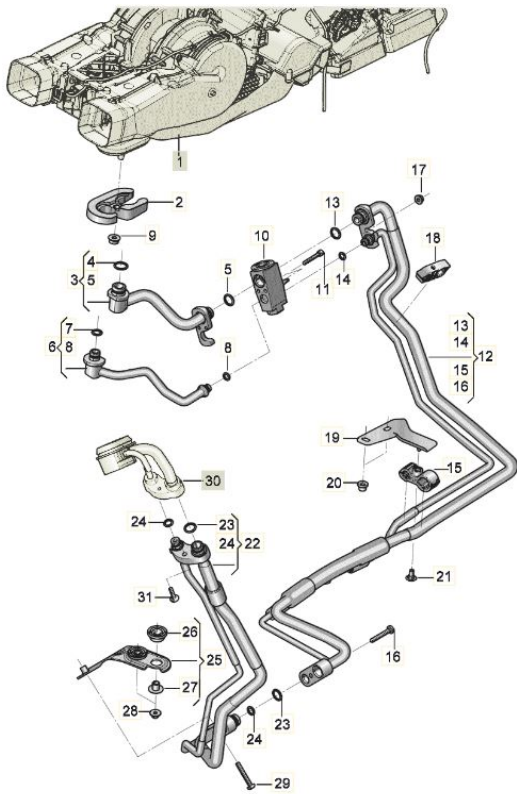

Figure 1
1. Conduct HVAC sniffer test to detect potential refrigerant leaks around refrigerant lines and fittings shown in figure 1.
2. If leak is detected at or near the expansion valve (10) see ETKA diagram in figure 1.
3. If leak is found at refrigerant line joints (6, 3, 22, or 12) see ETKA diagram in figure 1.